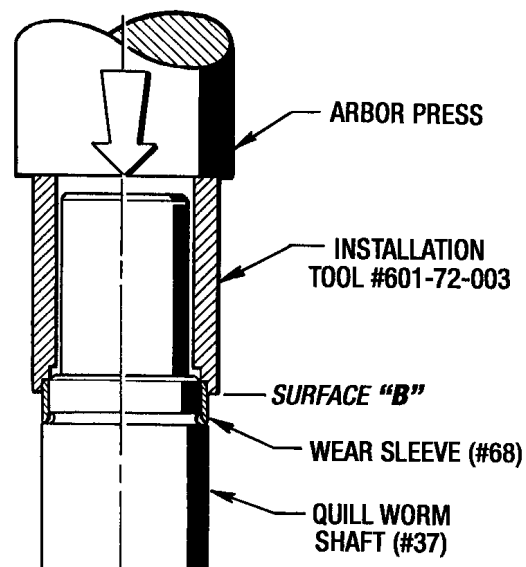

Figure 7.8 - Installing Wear Sleeve (#68) on Quill Worm Shaft
6. Place the Worm Shaft in an arbor press as shown in Figure 7.8. **Step 1** - Press the Wear Sleeve (#68) on to the Worm Shaft with **Surface "A"** of the Installation Tool. **Step 2** - Turn the Installation Tool over and with **Surface "B"** finish pressing the Wear Sleeve (#68) on the Worm Shaft until it bottoms out on the shaft shoulder.